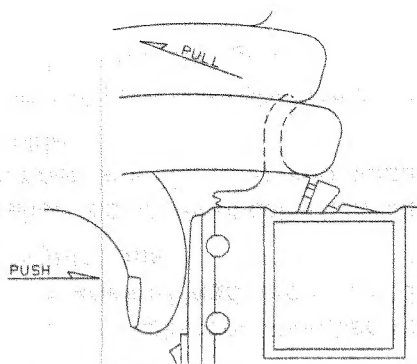

FIGURE 2
2. Place thumb on rear of tool (see Figure 2) and hook index finger around the holder. Push against the rear of the tool while pulling on holder with index finger. The holder should release from the tool. Remove the holder and collection chamber, twist the holder back and forth while removing.